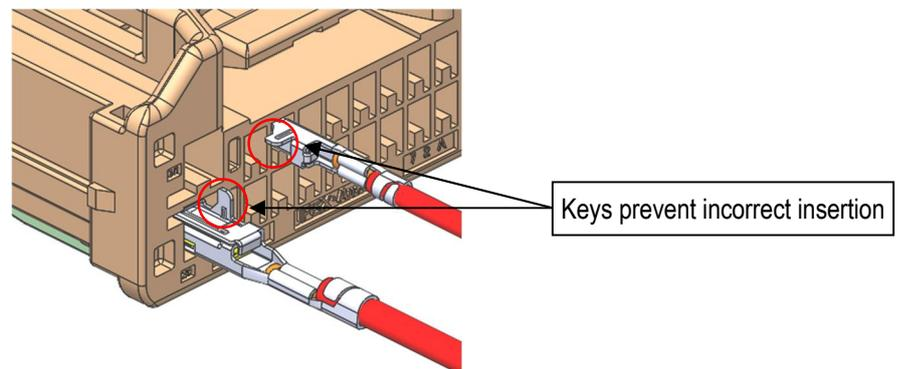

Fig26. Incorrect terminal insertion
- ① Terminals must be inserted in the orientation instructed. Forcibly inserting terminals in any other orientation may result in damage or deformation. Furthermore, if the terminals are inserted with incorrect orientation, terminal key prevents insertion into coreholes. (see Fig.26)
- ② Once the terminal is inserted, do not apply excessive pulling force to the wire.